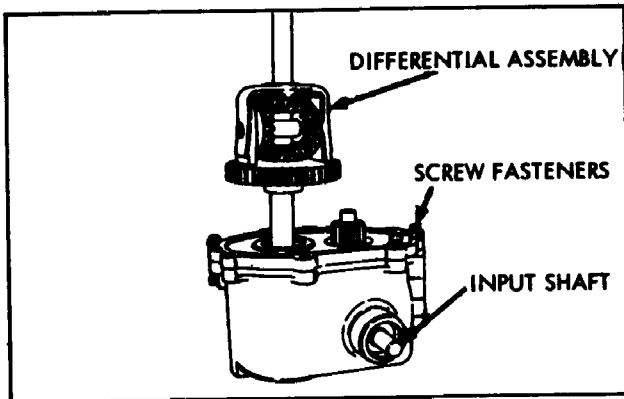

Figure 2-5
- To remove differential assembly, it may be necessary to replace two or three screws to hold center plate assembly down. Pull assembly straight up. (Fig. 2-5). If tight, tap on lower axle with soft mallet. CAUTION: DO NOT USE STEEL HAMMER. Refer to Section 4 for differential assembly service. Remove gear on top of shifter shaft.